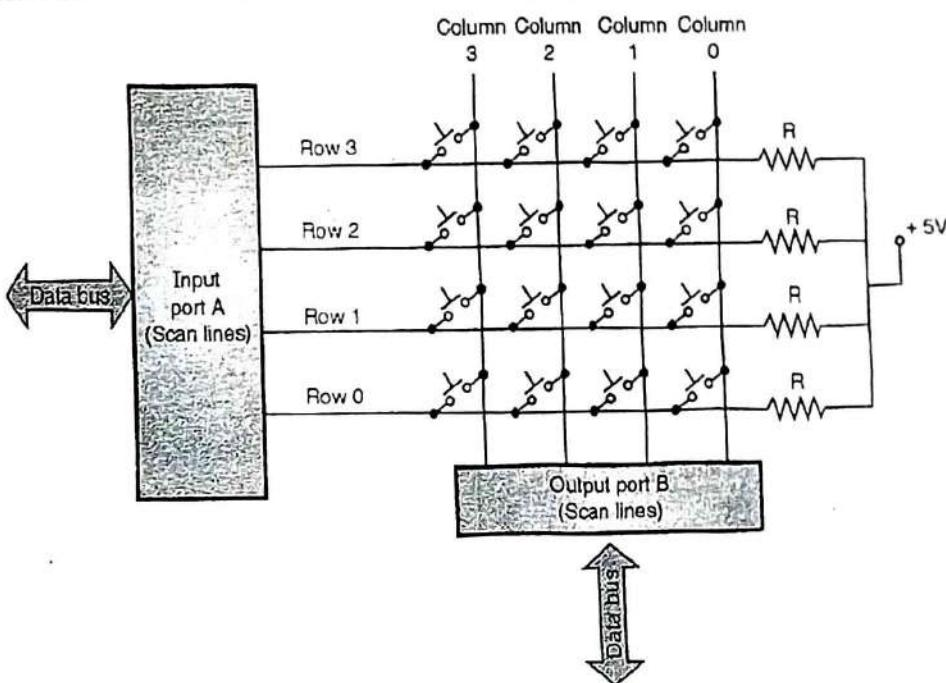

Fig. 7.2.4 : Matrix key board connections
- Fig. 7.2.4 shows the interfacing of a matrix keyboard, it requires two ports: an input port and an output port. The columns are referred to as scan lines and rows are referred to as return lines.